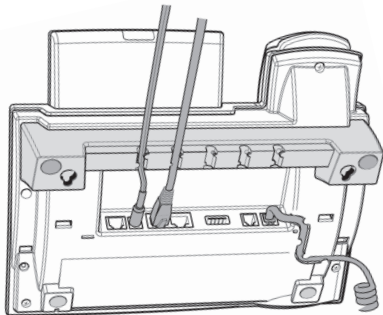

Fig. 3
3. Place the cables (Ethernet, etc.) in the cable slots of the footstand (Fig. 3).